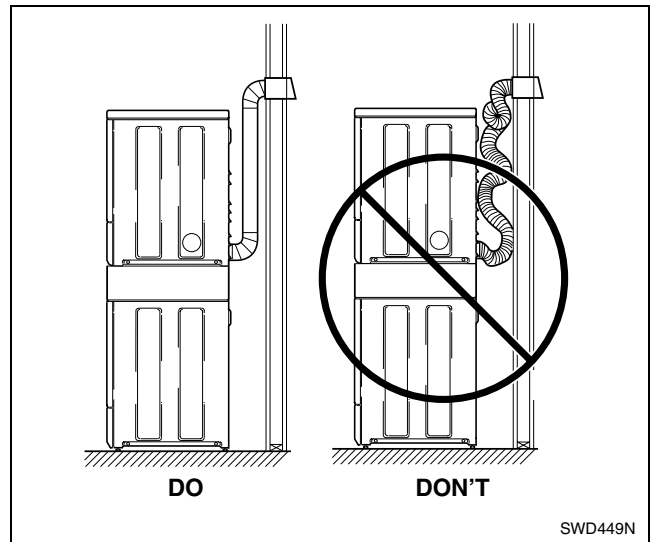

Figure 17
- DO NOT use plastic or thin foil ducting. Rigid metal duct is recommended. Refer to *Figure 17*.